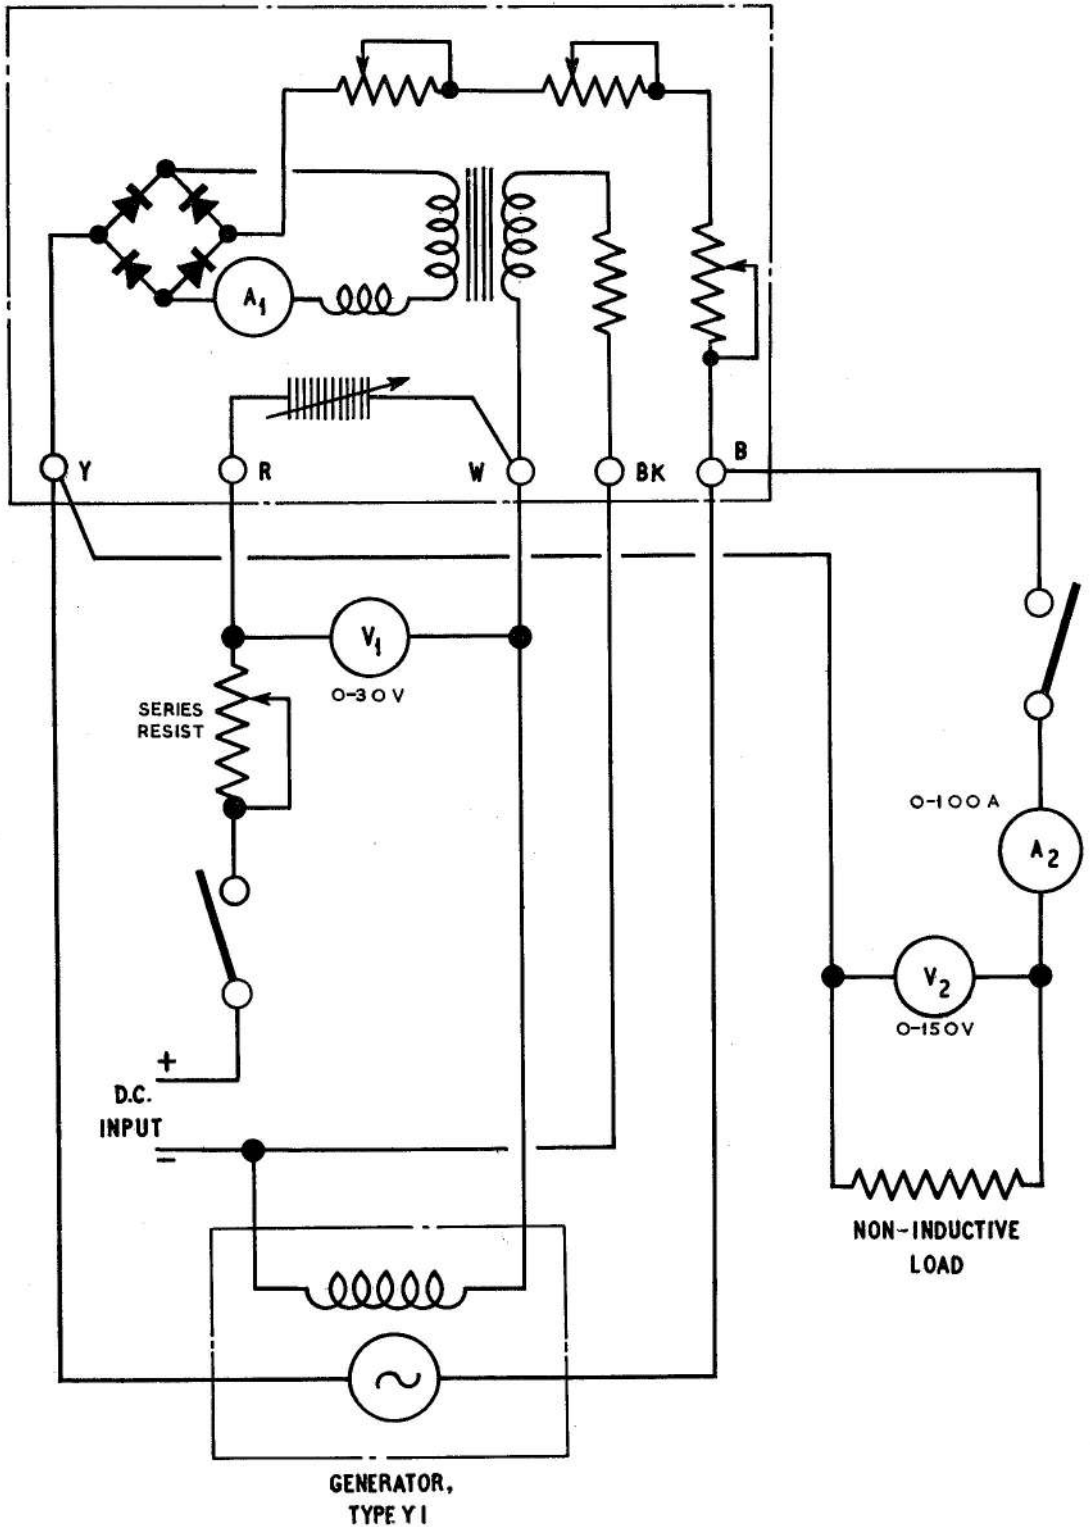

Fig. 3. Test circuit diagram
6. Connect the regulator in the test circuit as shown in fig. 3, the generator used being a Type Y.1, (Stores Ref. 5U/5211) excited from a 28-volt supply. For all tests the speed of the generator must be maintained at 4,000 r.p.m. unless otherwise stated.